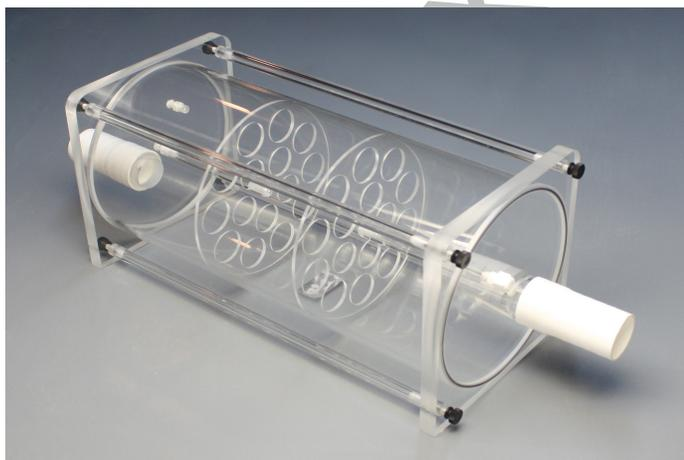

Figure HE-4-S2 and HE-4-S3: The mixing chamber showing the 1000L/min flow head connected to the outlet.
5. Locate the non-rebreathing valve, mask, and smooth interior tubing in the iWorx kit (Figure HE-4-S5).